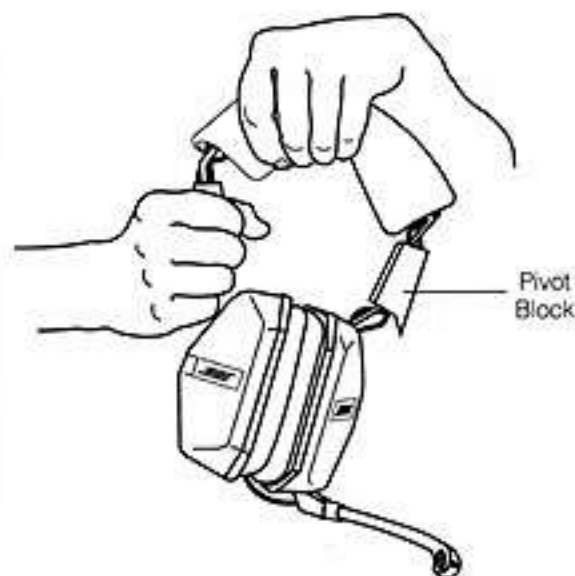

Figure 1
1. Grasp the headband pad in one hand and the pivot block in the other hand (see Figure 1).